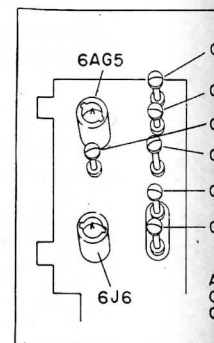

Fig. 4
4. With the signal generator, adjust the maximum response to the frequency indicated below. (See Figure 4.)
6. With the signal generator, adjust the maximum response to the frequency indicated below. (See Figure 4.)